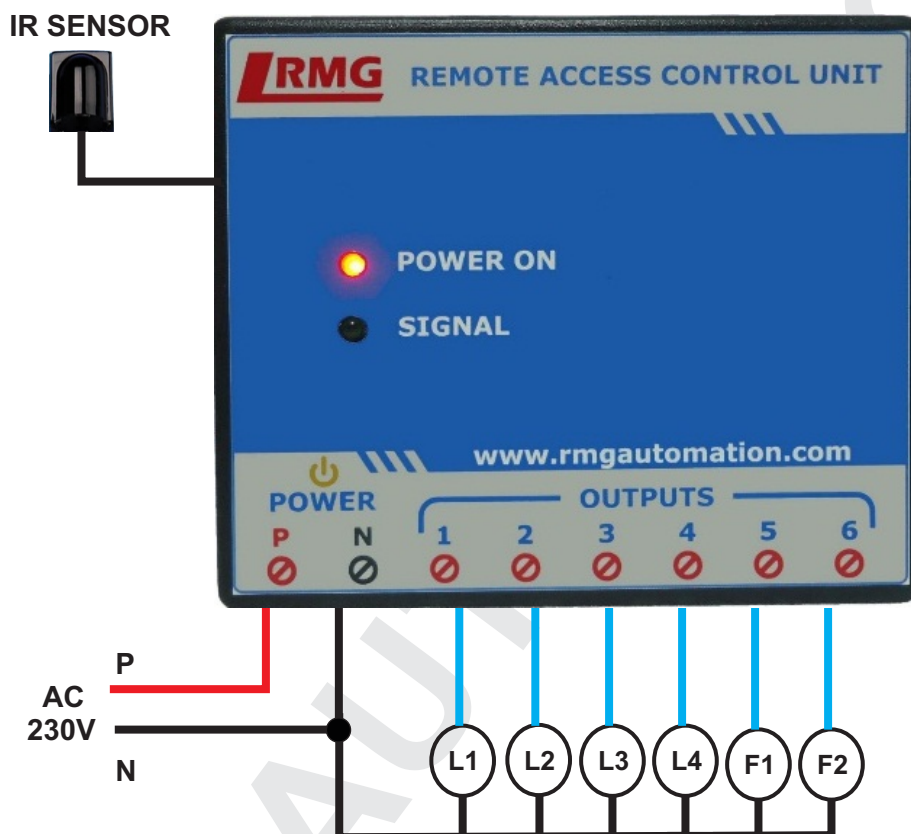

Figure1: Power & Load connection
**Step 2:** connect AC 230V supply to red and black wire of relay unit. (refer figure 1.)
**Step 3:** connect each blue wire from Relay unit each loads (phase) and connect each load's neutral lines directly to neutral line of Relay unit (Refer Figure. 1).. First 4 channel (outputs 1,2,3,4) gives electromagnetic relay outputs which can be used to connected lights and bulbs remaining 2 channel (outputs 4,6) gives triac outputs which can be used to connect fans.